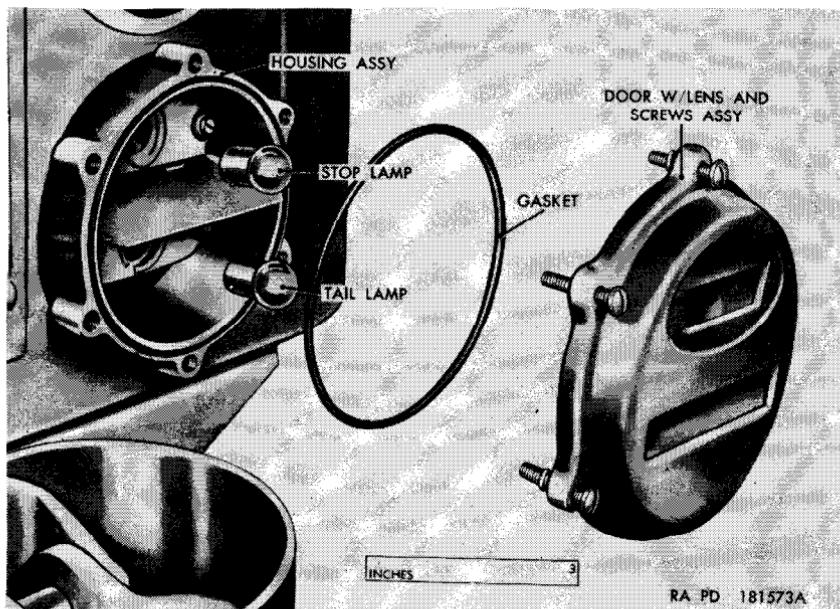

Figure 77. Blackout taillight and stoplight assembly—partially exploded view.
a. Blackout Taillight and Stoplight Assembly (Right) (fig. 77).
- (1) *Lamp replacement.* Unscrew the six screws securing the door with lens and screws assembly to the housing assembly and remove the door and gasket. Push defective lamp in and turn counterclockwise to remove. Insert the new lamp and turn clockwise to lock in place. Examine